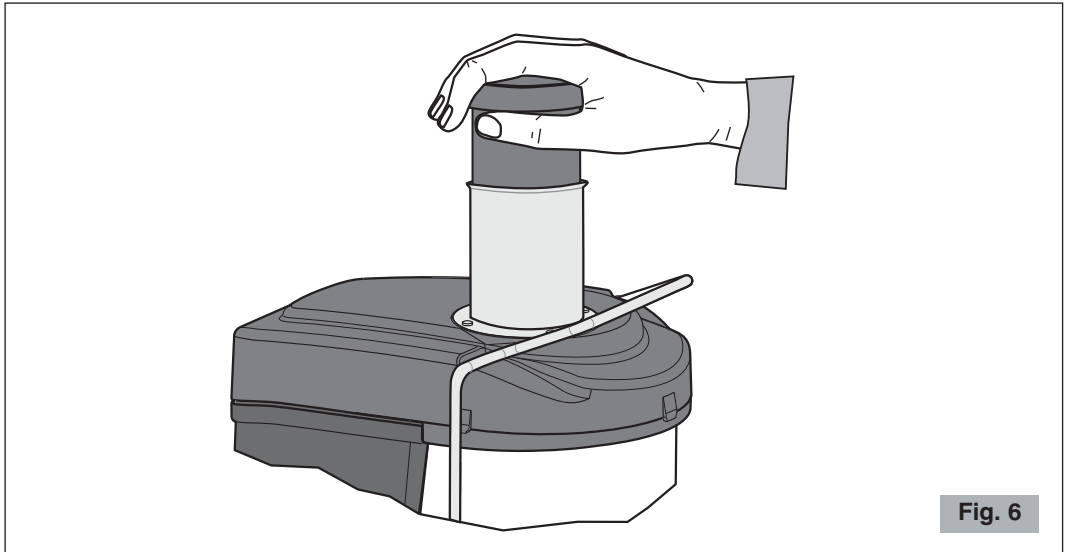

Fig. 6
- 6 With the motor in action put fruit and/or vegetables in the feed chute. Use the food pusher to gradually push down the fruit and/or vegetables towards the spinning grating disc at the bottom of the feed chute without exerting excessive pressure (see Fig. 6). To obtain more juice always press the food pusher lightly.